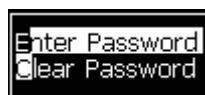

Figure 4-2: Enter Password
- 2 Press *Alt+W*. Select the *Enter Password* (see Figure 4-2) option and press the *Enter* key. Alternatively, press *F3* in the Main screen. The *Enter Password* screen appears (see Figure 4-3).